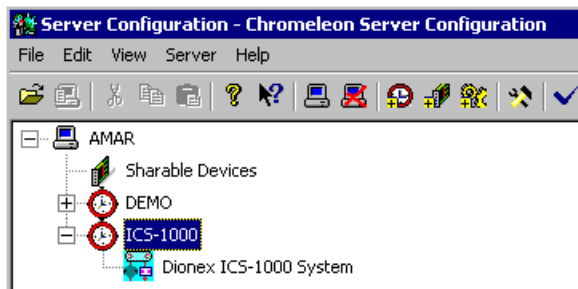

Figure B-14. Example: ICS-1000 Timebase
2. Select the timebase that was created for the ICS-1000 (see Figure B-14); then, click the **Add device** icon  on the toolbar (or select **Edit>Add Device**).